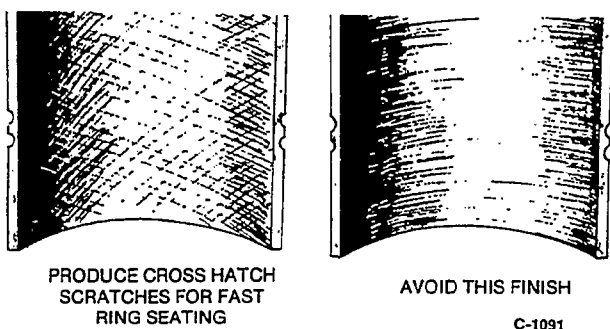

FIGURE 9-30. CROSSHATCHING
3. The deglazing tool should be driven by a slow-speed drill. Move the deglazing tool up and down in the cylinder (10 to 12 complete strokes) rapidly enough to obtain a crosshatch pattern, as shown in Figure 9-30.